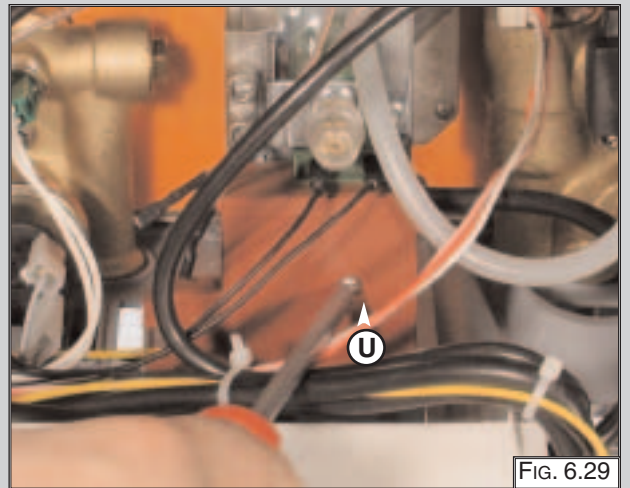

FIG. 6.29
2. Remove the screw "U" (FIG. 6.29);